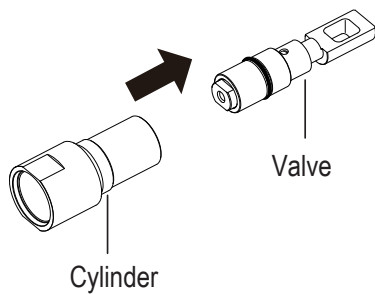

Fig.17
- b. Pull out the valve from the cylinder. (Fig. 17)